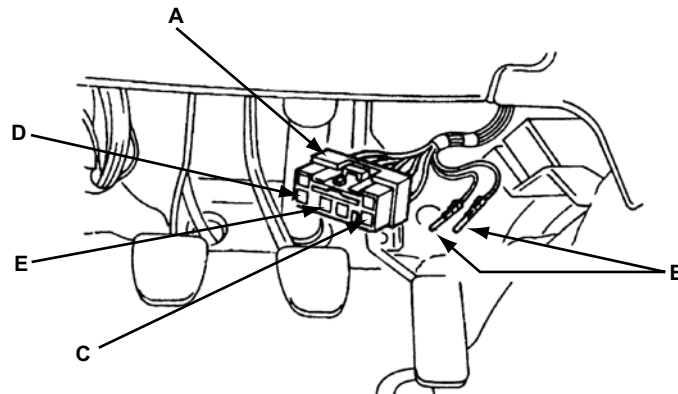

Figure 15-51 1995-99 Legacy, 1998-04 Impreza, 2001-04 Forester and 2003-04 Baja ABS Diagnostic Connector Location
- 1995–1996 Legacy/Outback, Sedan and Wagon w/o TCS (Figure 15-51 on page 218)
- 1995–1996 Legacy/Outback, Sedan and Wagon with TCS (Figure 15-51 on page 218)
- 1993–1996 Impreza Coupe, Sedan and Wagon w/o TCS (Figure 15-51 on page 218)
- 1997 (late)–1999 Legacy/Outback, Sedan and Wagon (Figure 15-51 on page 218)
- 1998–2001 Impreza Coupe, Sedan and Wagon (Figure 15-51 on page 218)
- 2001 Forester (Figure 15-51 on page 218)
- 2003–2004 Baja (Figure 15-51 on page 218)
1. Locate the ABS diagnostic connector and diagnostic terminals near the heater assembly on the driver side (Figure 15-51).
1. Disconnect the diagnosis terminal from the diagnosis connector terminal 6 (Figure 15-51).
1. Disconnect the diagnosis terminal from the diagnosis connector terminal 4 (Figure 15-51).